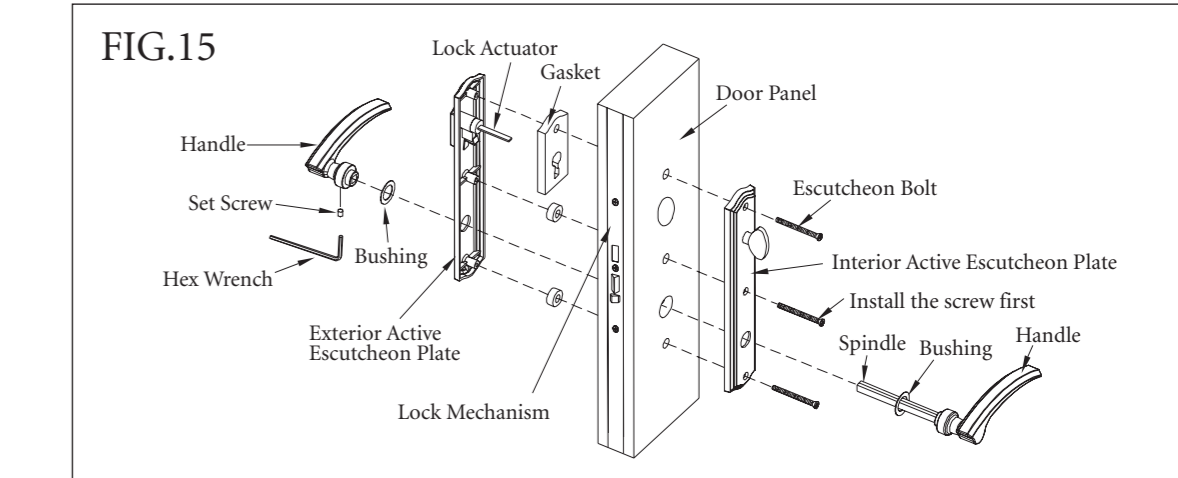

FIG.15
- Multi-point lock handle set. (See Fig.15)